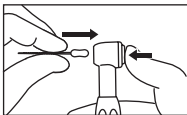

Fig. 2
- Insert the instrument handle into the chuck (Fig.2) and release the button.